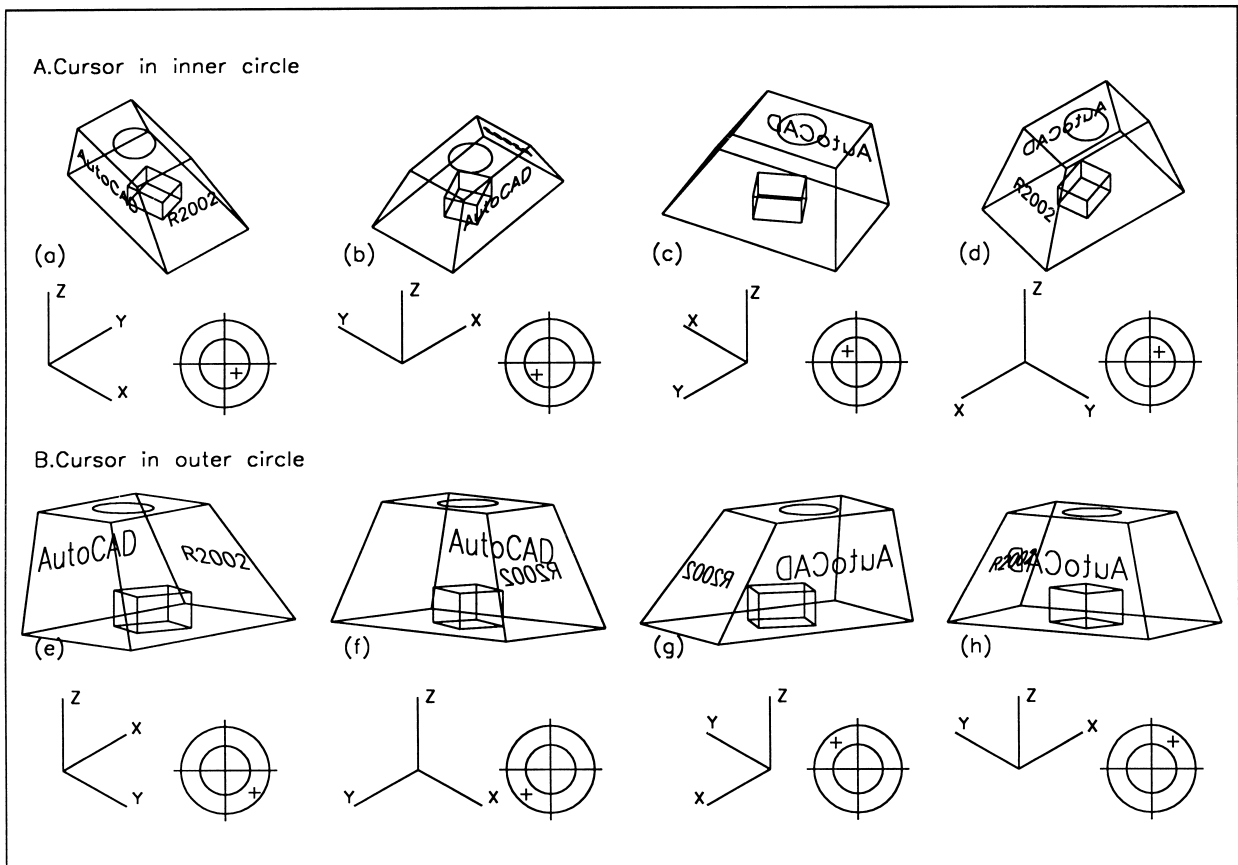

Figure 10.3 3D Views – the Viewpoint compass and tripod option with TEST3D.
- 1 Open the MODR2002\TEST3D model created during the viewport exercise and refer to Fig. 10.3
- respond* move the cross (+) into the circle quadrant indicated in Fig. 10.3(a) and left-click
respond move the cross (+) into the circle quadrant indicated in Fig. 10.3(b)
- 6 Repeat the tripod viewpoint option (menu bar or command line) and position the cross (+) in the quadrants indicated in Fig. 10.3